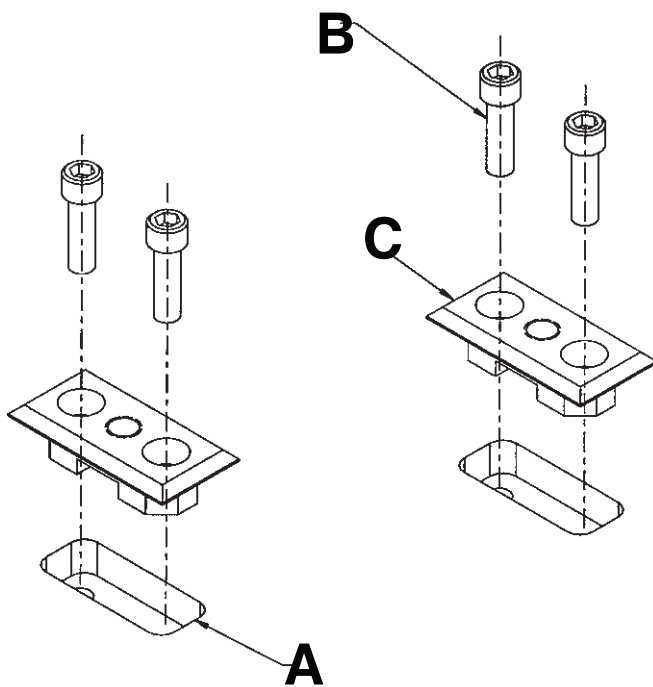

Figure 9 – Cut recessed openings over locating holes
3. Cut 1 in. x 2-1/2 in. x 9/16 in. deep recessed openings (A) into the floor centered over the locating holes (Figure 9).